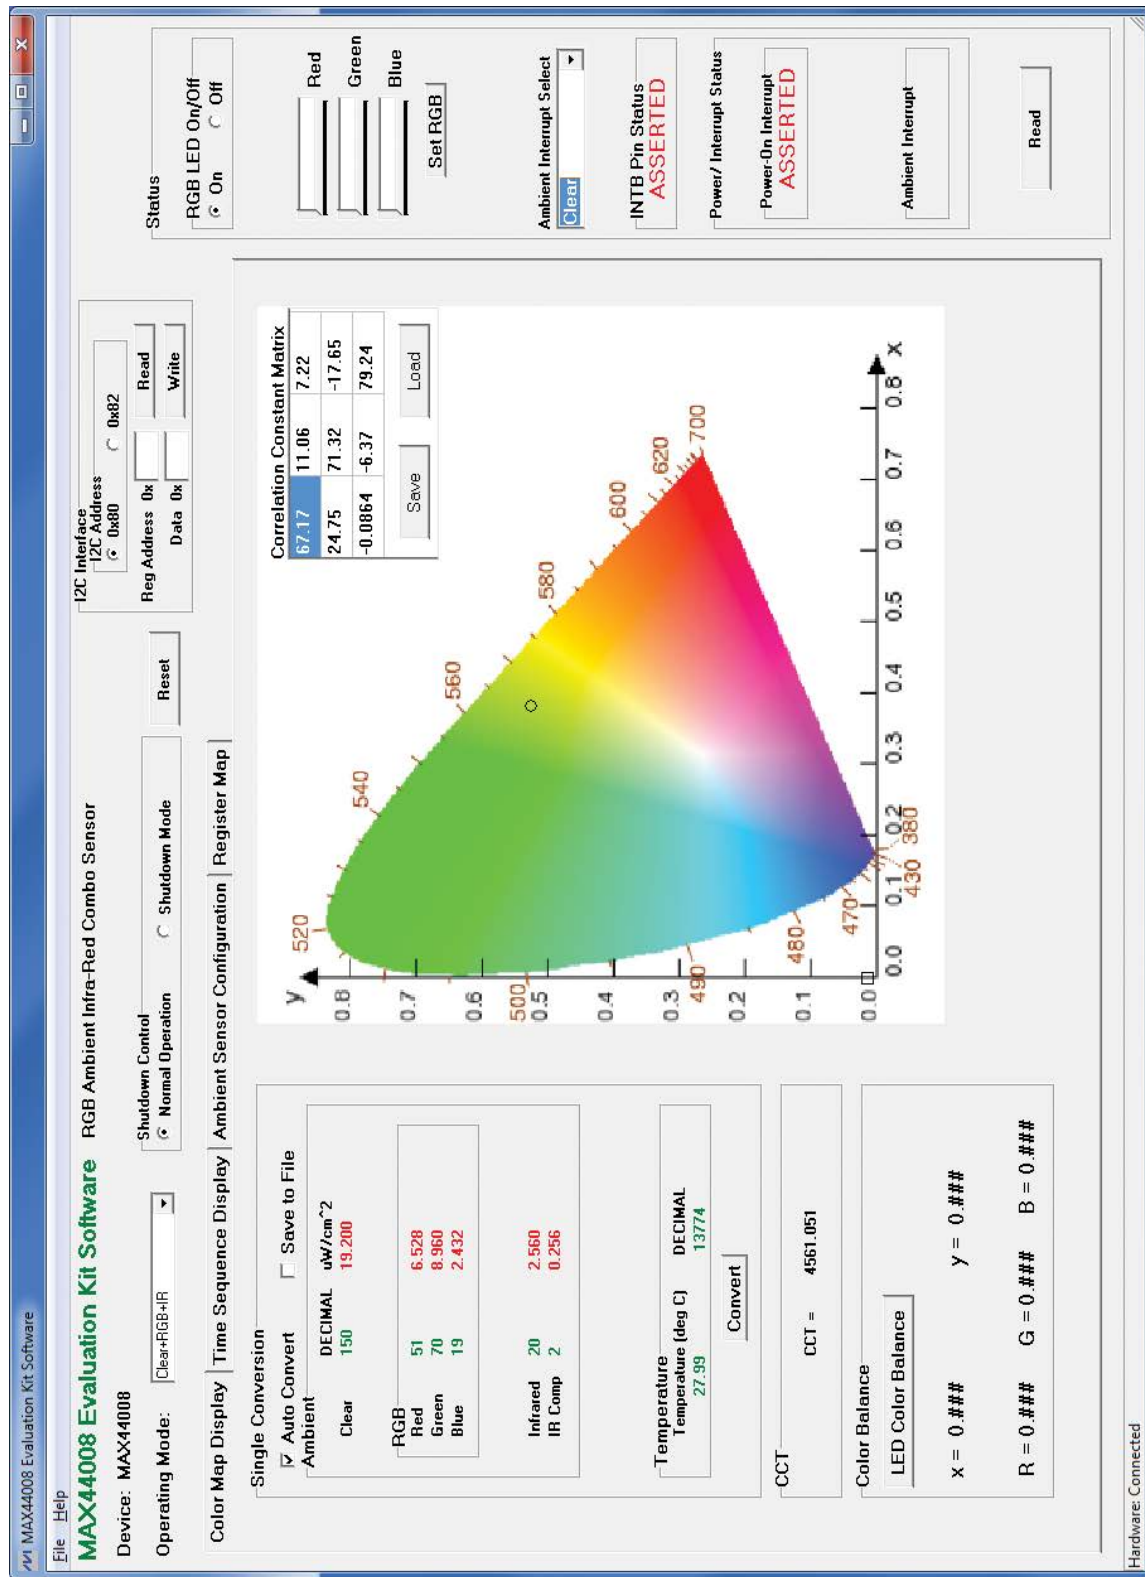

Figure 1. MAX44008 EV Kit Software Main Window (Color Map Display Tab)
- 5) Start the EV kit software by opening its icon in the **Start | Programs** menu. The EV kit software main window appears, as shown in Figure 1.
The MAX44008 EV kit software (Figure 1) contains an **I2C Interface** group box, a **Status** group box, and four tab sheets (**Color Map Display**, **Time Sequence Display**, **Ambient Sensor Configuration**, and **Register Map**) to configure the MAX44008 and display the ADC data received from the device.
The **Single Conversion** group box on the **Color Map Display** tab sheet (Figure 1) displays the ADC values for a single sample. Press the **Convert** button to update the values in the **Ambient**, **Temperature**, and **CCT** group boxes. The received RGB ADC values are converted to the chromaticity coordinates (x, y) values using the 3-by-3 **Correlation Constant Matrix** located in the upper-right corner of the chromaticity diagram. The calculated x, y value is plotted on the chromaticity diagram in a circle shape. Overwrite the values in the matrix and press the **Save** button to save the matrix settings. Press the **Load** button to restore the previously saved matrix. See the following for the RGB to chromaticity coordinate conversion formulas and CCT calculation formulas: